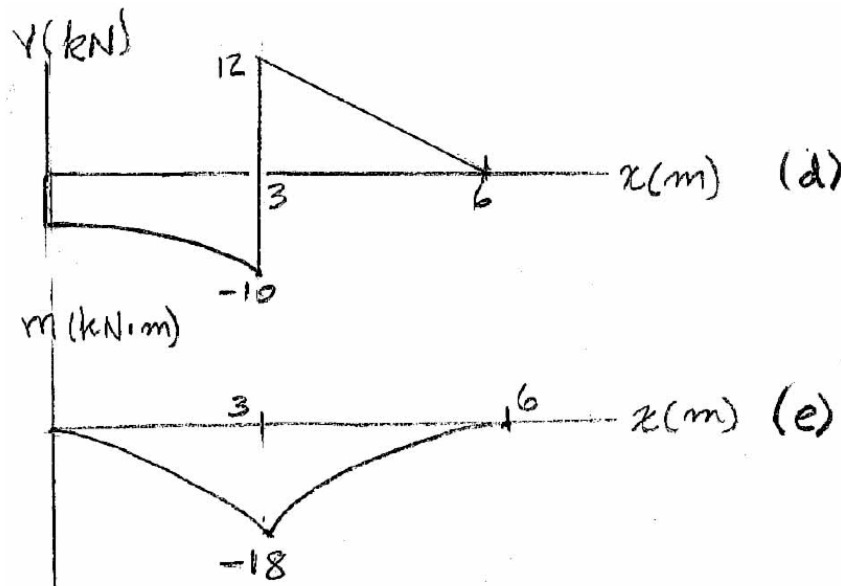

Figure 25
The shear diagram shown in Fig. 25 d is plotted using Eqs. (1) and (3). The value of shear just to the left and just to the right of the support is evaluated using Eqs. (1) and (3), respectively.
The moment diagram shown in Fig. 25 e is plotted using Eqs. (2) and (4). The value of the moment at support B is evaluated using either Eq. (2) or Eq. (4).